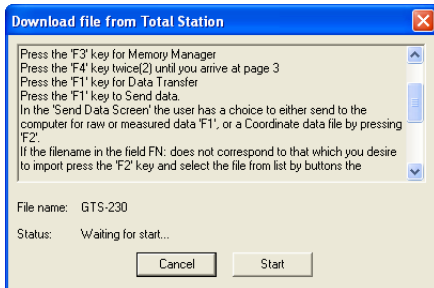

Figure 2-13. Total Station Instructions – Preparing for Import
9. Select the desired file in the Total Station to download to the computer (Figure 2-13).